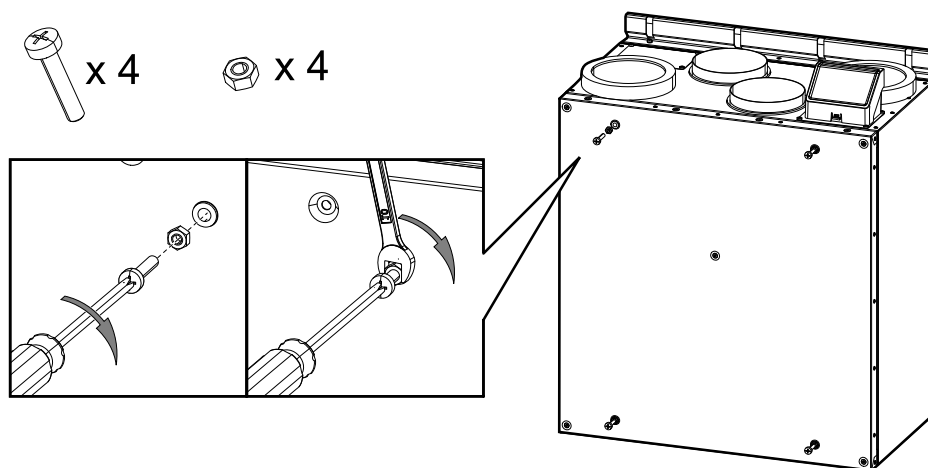

Fig. 19 Installation of bolts
1. Install four M6 bolts into threaded inserts on the unit and lock bolts with hex nuts (figure 19). Bolts protrusion can be adjusted later.